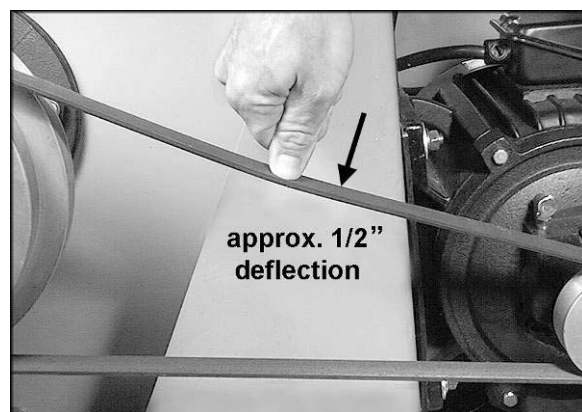

Figure 24
5. Check the tension by pushing down with moderate pressure against the center of the belt (Figure 24). An adequately tensioned belt will deflect about 1/2".